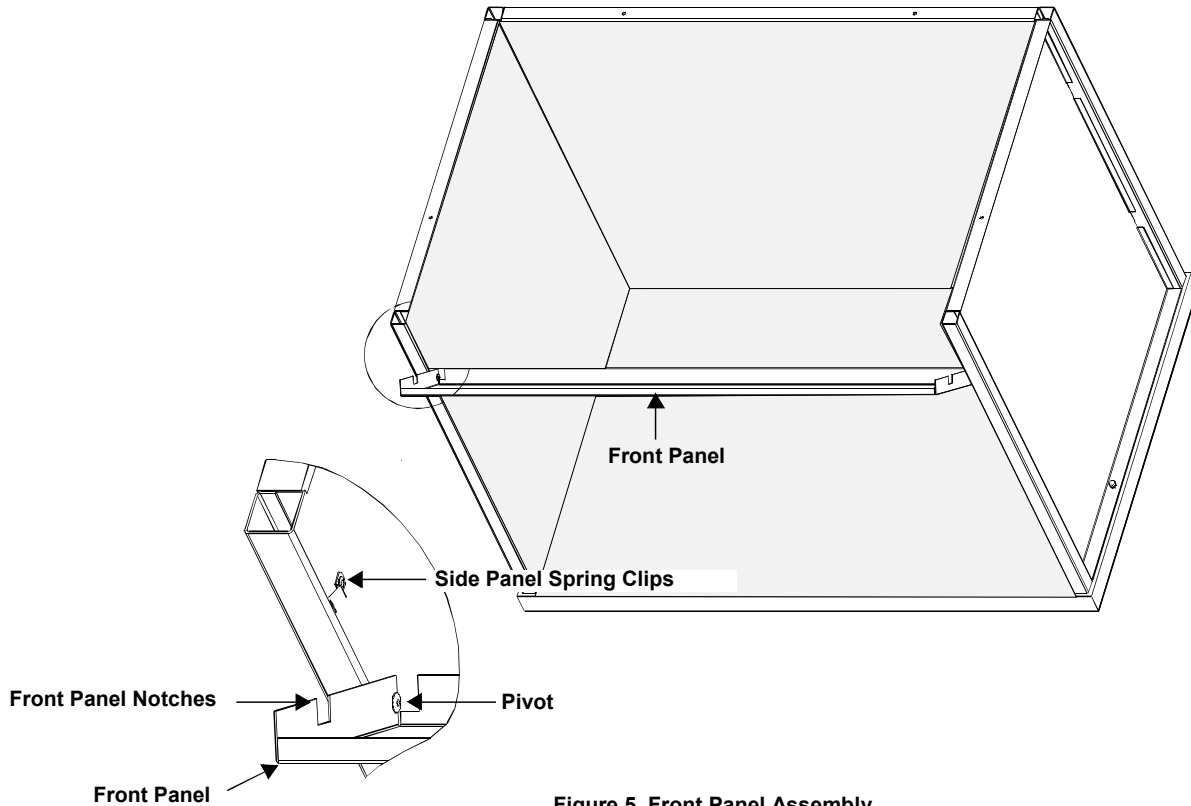

Figure 5. Front Panel Assembly
9. Pivot the front panel upwards toward the unit and secure it in place by rotating it about the pivots and locking in place with the left and right side panel spring clips. See Figure 5.